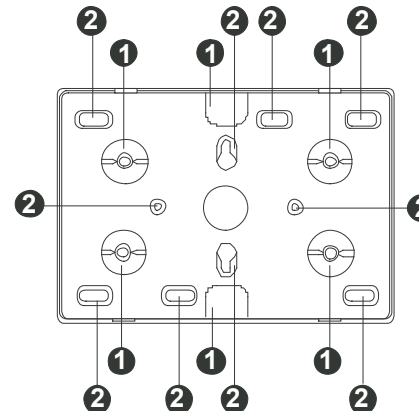

Figure 1: Cable (1) and Mounting (2) holes
4. Mount the keypad using M4/M3.5 screws. Mounting and cable holes on the back plate are shown in Figure 1.